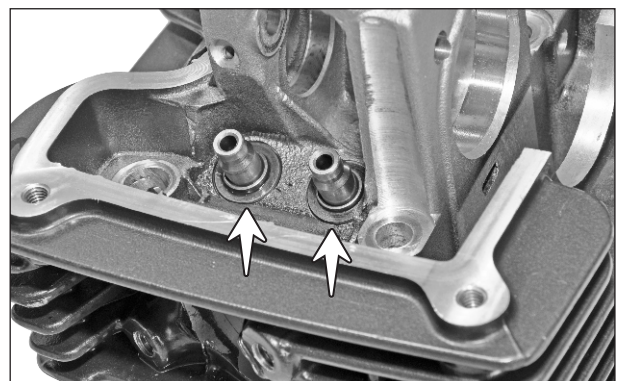

Fig. 3.54
- Remove seat valve spring. (Fig. 3.54)